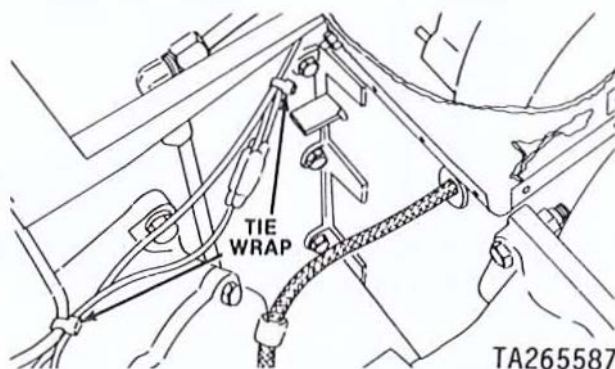

Figure 4-7 Removing or Installing Smoke and Dust Detector Electrical Cables
- (3) Cut and remove two tie wraps (fig. 4-7).
(5) Install two new tie wraps (fig. 4-7).